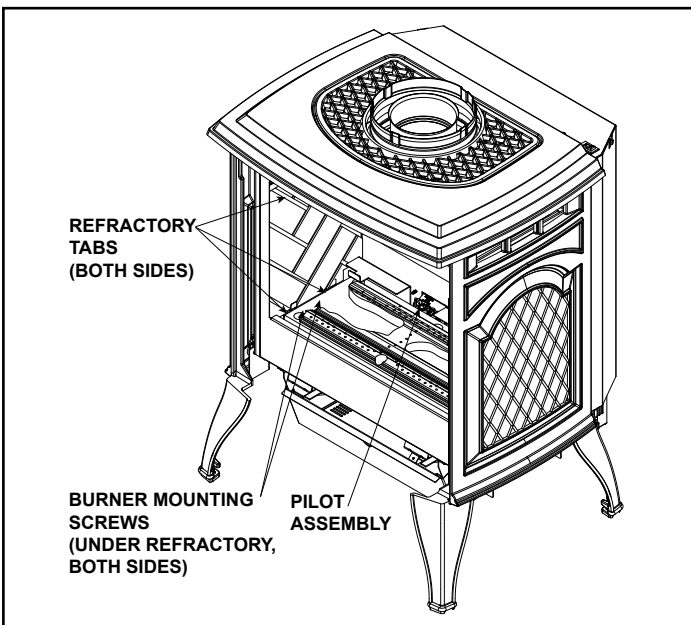

Figure 6.13 Remove Burner
- Remove the logs and side refractory if installed. To remove side refractory, bend tab at top front corner of refractory. See Figure 6.13.
- The pilot needs to be lifted slightly to accommodate the burner removal. Remove the two screws that attach the pilot to the burner. Lift the pilot slightly until it clears the pilot mounting tabs. See Figure 6.13.
- Remove two burner mounting screws from each side of the burner. Lift burner up and out of appliance. See Figure 6.13.